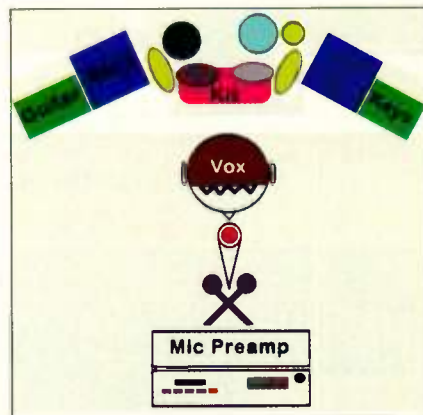

FIGURE 1
1. **Recording Rehearsals:** Place two identical microphones in an X-Y mechanical configuration, not more than six inches behind the lead vocalist's PA microphone (see the drawing in fig. 1). Record directly to stereo tape and take frequent breaks to listen either in headphones (preferred), in another room on a stereo system, or through the PA. It's not only possible to achieve a balance this way, it is also possible to get an exceptional recording.